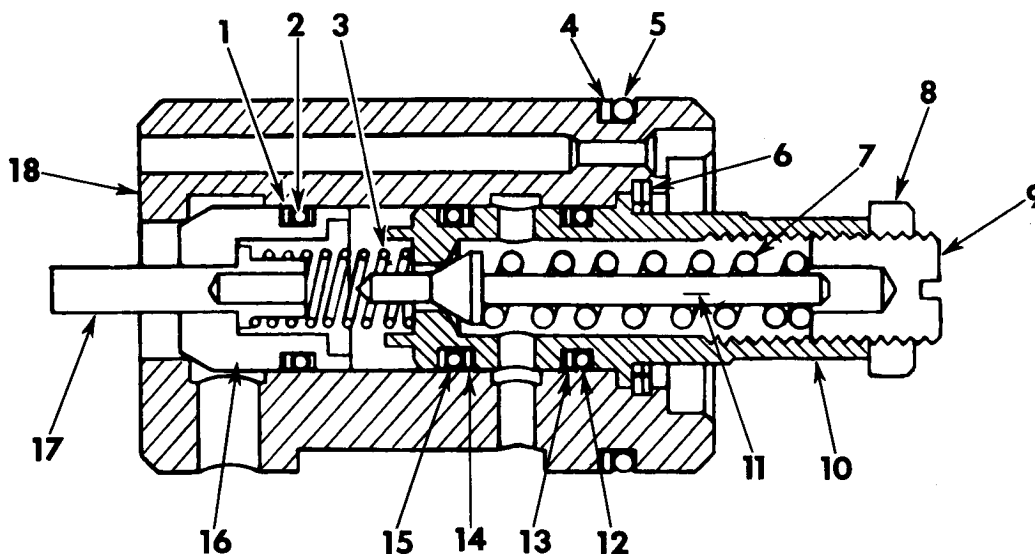

Figure 11-30
Remove socket head cap screws (63) and cover (62). Loosen lock nut (8, Fig. 11-30) and turn adjusting screw clockwise to increase pressure or counterclockwise to reduce pressure. (One full turn of screw is equal to approximately 1600 psi.) Tighten lock nut (8). Replace cover, tighten screws evenly and repeat pressure check with test gauge. When properly adjusted, tighten cover cap screws to recommended torque (refer to "SPECIAL TORQUES.")
To disassemble main relief valve (70) remove snap ring (6, Fig. 11-30) and withdraw adjusting plug (8) and associated parts intact. Slide spring (3), poppet (16) and piston (17) from sleeve (18). Remove and discard "O" rings (2, 5, 12, 15). Remove back-up rings (1, 4, 13, 14).
Examine main relief valve (Fig. 11-30) poppet faces and seats. If any components of main relief valve are unfit for further service, replace entire valve. With "O" rings and back-up rings removed, insert poppet (16) into sleeve (18) and test for fit. Poppet must fit snugly without binding throughout a complete revolution.
Slide low pressure relief (69) into sleeve (67). Coat all parts of main relief valve (70) with clean hydraulic oil. Insert poppet (11, Fig. 11-30) and spring (7) into adjusting plug (10) and thread adjustment screw (9) into plug until it just contacts spring. Tighten adjustment screw exactly 1-1/4 turns. Hold adjustment screw to prevent movement and install lock nut (8) and tighten.
Remove socket head cap screws (63) and cover (62). Loosen lock nut (8, Fig. 11-30) and turn adjusting screw clockwise to increase pressure or counterclockwise to reduce pressure. (One full turn of screw is equal to approximately 11032 kPa (1600 psi). Tighten lock nut (8). Replace cover, tighten screws evenly and repeat pressure check with test gauge. When properly adjusted, tighten cover cap screws to recommended torque (refer to "SPECIAL TORQUES.")